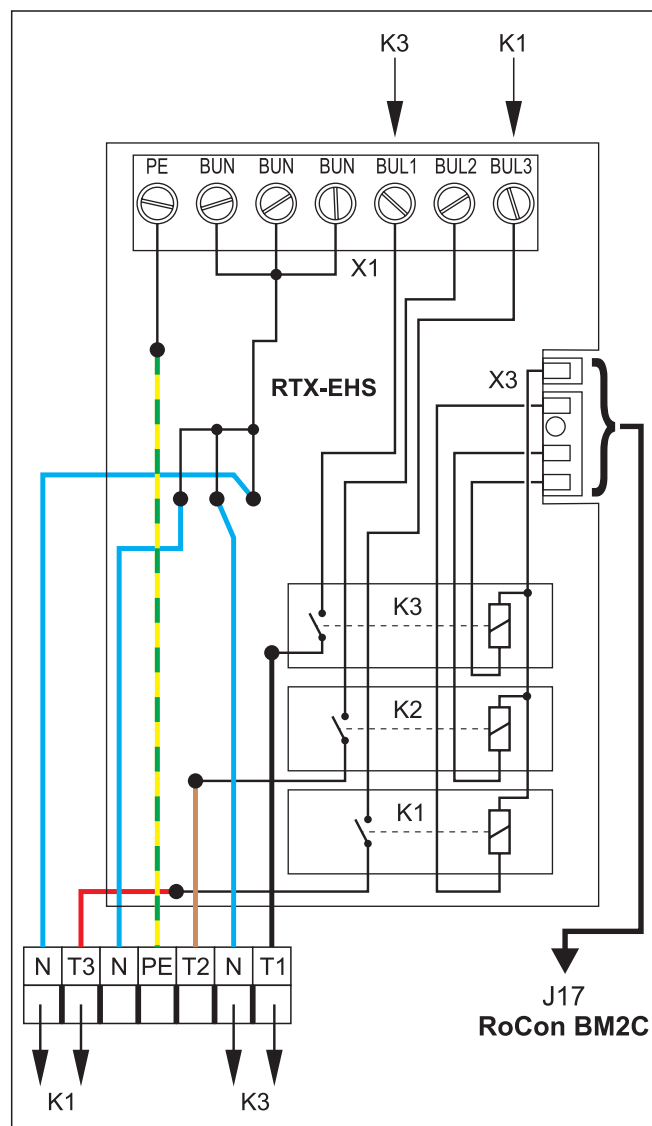

Fig. 4-38 Connection on the RTX-EHS printed circuit board
The external heat generator request is connected via a relay on printed circuit board RTX-EHS (see Fig. 4-38). Electrical connection to the indoor unit is possible as follows:
- Make suitable connections on the RTX-EHS printed circuit board of the connection set (see Fig. 4-38).